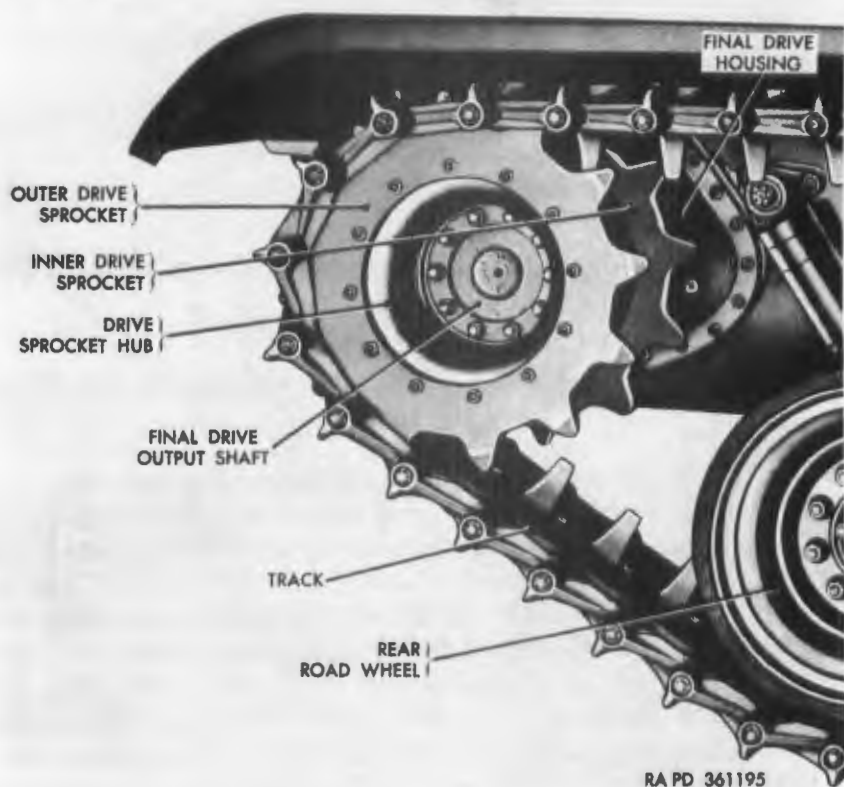
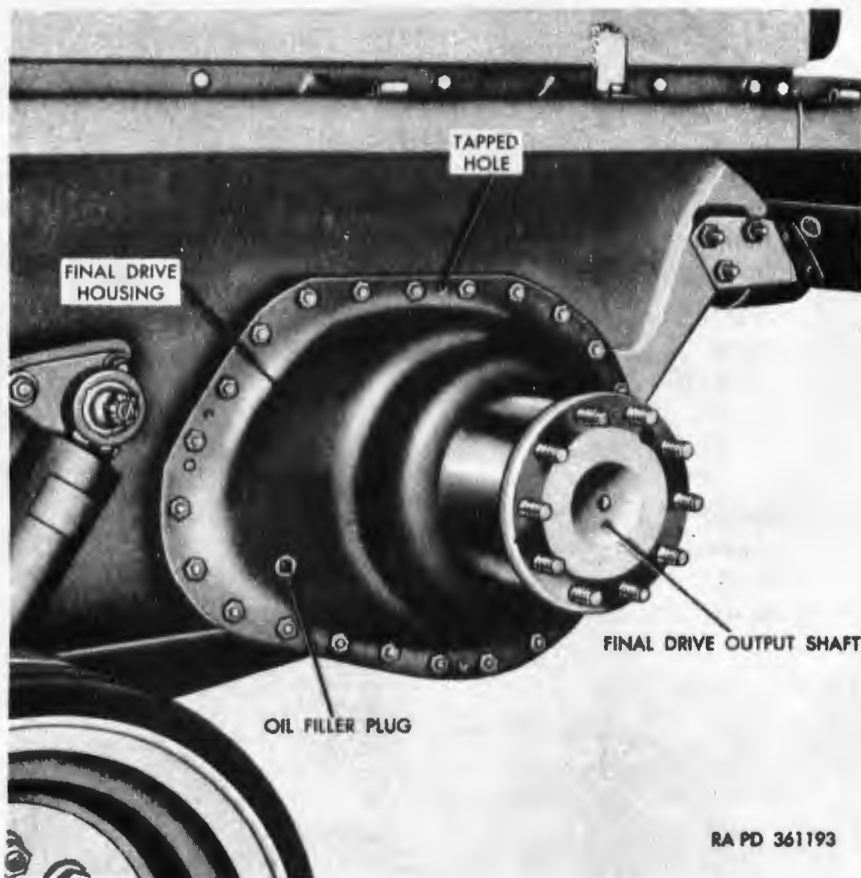
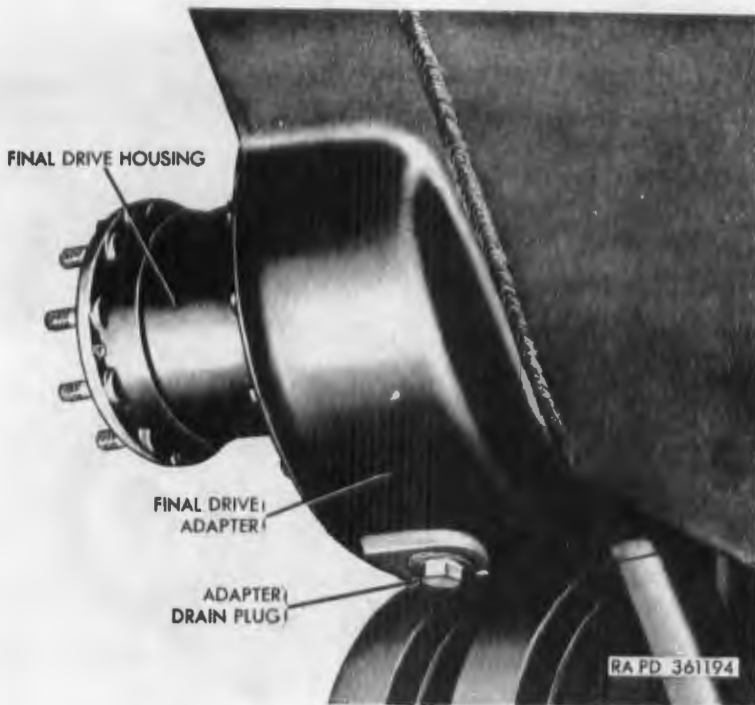
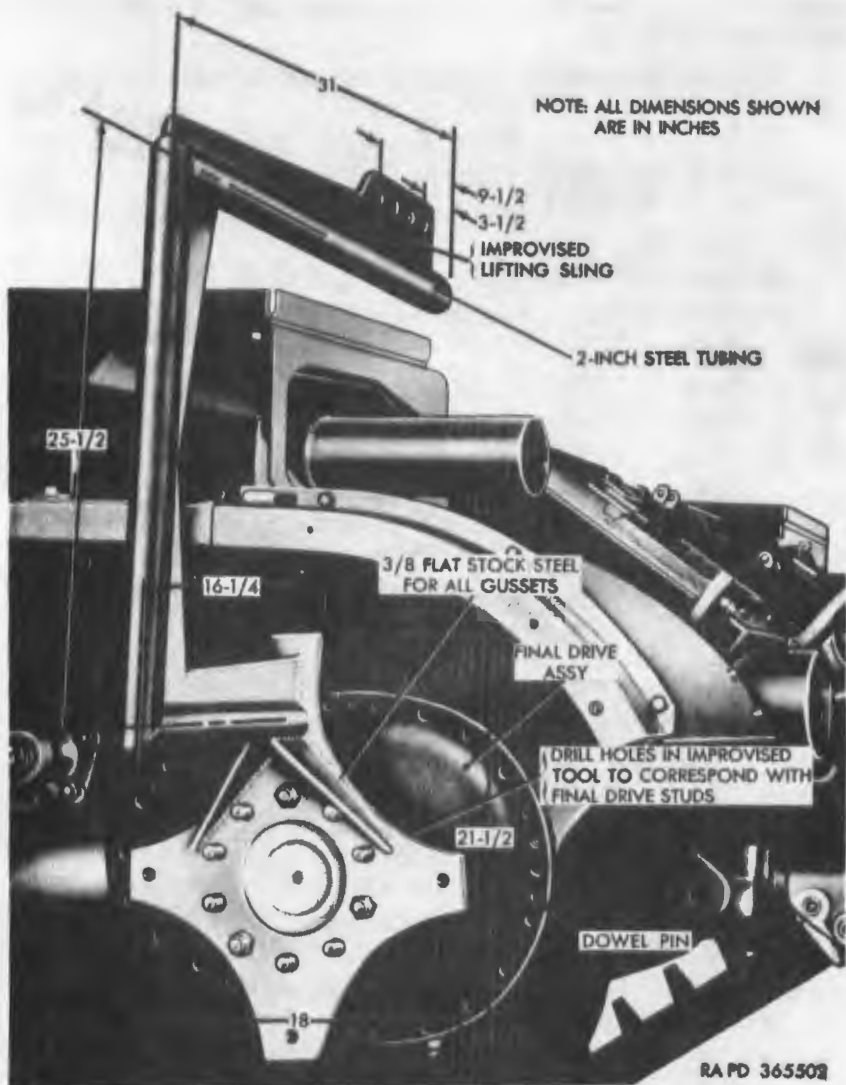

Figure 192. Final drive with drive sprockets, hub, and track.
Figure 193. Final drive assembly installed.
Figure 194. Final drive adapter.
Figure 198. Removing or installing final drive assembly with improvised lifting sling.
a. Final Drives. The final drive assemblies transmit power from the transmission to the inner and outer drive sprockets (fig. 192). A final drive assembly is mounted on each side of the vehicle near the rear. The connection between the transmission and final drive assemblies is made by left and right universal joint assemblies (fig. 195). Each final drive assembly has a spur gear speed reduction combination consisting of a 12 tooth pinion gear, a 25 tooth idler gear, and a 51 tooth final drive gear. This gearing results in a final output speed reduction of 4.25:1. The final drive gear assemblies are encased in a final drive housing (fig. 193) made of cast armor with a cast steel cover. The assembly is se-
cured by 24 hex-head bolts on early vehicles or by 21 hex-head bolts on late vehicles to a final drive adapter (fig. 194) that is welded to and forms a part of the hull. The outer end of the final drive output shaft (fig. 192) is flanged and has 10 equally spaced studs for mounting the drive sprocket hub and drive sprockets.
b. *Hub and Drive Sprockets.* A cast steel drive sprocket hub (fig. 192) is secured to each final drive output shaft by 10 nuts. A drive sprocket is bolted to each flanged end of the drive sprocket hub with 12 self-locking bolts.
a. *Service.* The oil filler plug (fig. 193) and the oil drain plug are located in the housing of the final drive assembly and are accessible from outside the vehicle. The drain plug is reached by first removing the adapter drain plug (fig. 194) in the bottom of the final drive adapter. Fill with lubricant as specified on lubrication order LO 9-7218 (par. 90) to the bottom of the oil filler plug hole with the vehicle on level ground. Unscrew final drive breather mounted on the side of each final drive cover at service interval specified on lubrication order LO 9-7218 (par. 90) and clean thor-
- (1) *Drain lubricant.* Remove adapter drain plug (fig. 194), final drive drain plug, and oil filler plug (fig. 193) and drain lubricant into a container with at least 1-gallon capacity.
- (2) *Remove track.* Refer to paragraph 220b.
- (3) *Remove hub and drive sprockets.* Refer to paragraph 216a.
- (4) *Remove batteries.* Remove batteries (par. 172b) and fold up battery support against hull.
- (6) *Remove final drive assembly.* The final drive assembly (fig. 198) may be removed by using an improvised lifting sling (fig. 198) or final drive assembly lifting sling 3940-708-3651 with final drive sprocket and hub lifting sling 41-S-3830-30 (fig. 67). Attach final drive assembly lifting sling to final drive shaft studs and support weight of assembly with suitable lifting device. Remove 24 or 21 hex-head bolts (par. 215a) that secure the final drive housing to the final drive adapter. Force housing from adapter with four of the securing bolts used as puller bolts in the tapped holes (fig. 193) provided for this purpose. Carefully lift out final drive assembly from vehicle and remove sling.
- (1) *Install final drive assembly.* Install adapter drain plug (fig. 194), final drive plug, and oil filler plug (fig. 193). Install improvised lifting sling (fig. 198) or final drive assembly lifting sling 3940-708-3651 with final drive sprocket and hub lifting sling 41-S-3830-30 (fig. 67) on studs of final drive shaft. Clean mating surfaces with wire brush and coat machined surface of housing flange with sealing compound. Hoist and position final
drive assembly on adapter being careful to align splined final drive connecting flange (fig. 195) on splined pinion gear in final drive cover and also align dowel holes in housing with two $\frac{1}{2}$ x $1\frac{1}{2}$ dowel pins (fig. 198) in adapter.